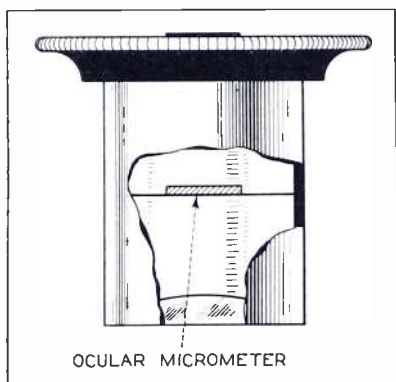

Fig. 41. The position of the ocular micrometer, where the real image is formed, in the eyepiece.
1. A small glass circle, similar to a cover glass, with calibrations thereon (Fig. 41) and inserted in the ocular where the real image is formed.